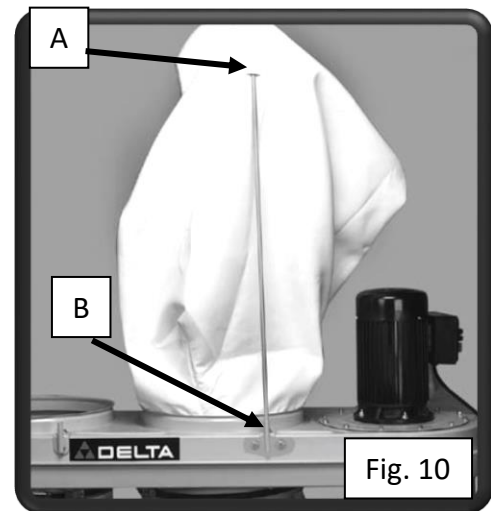

Fig. 10
- 5) Insert the rod into the pocket on the filter bag (A) (Fig. 10).
- 6) Insert the rod into the hole in the bracket (B) (Fig. 10).